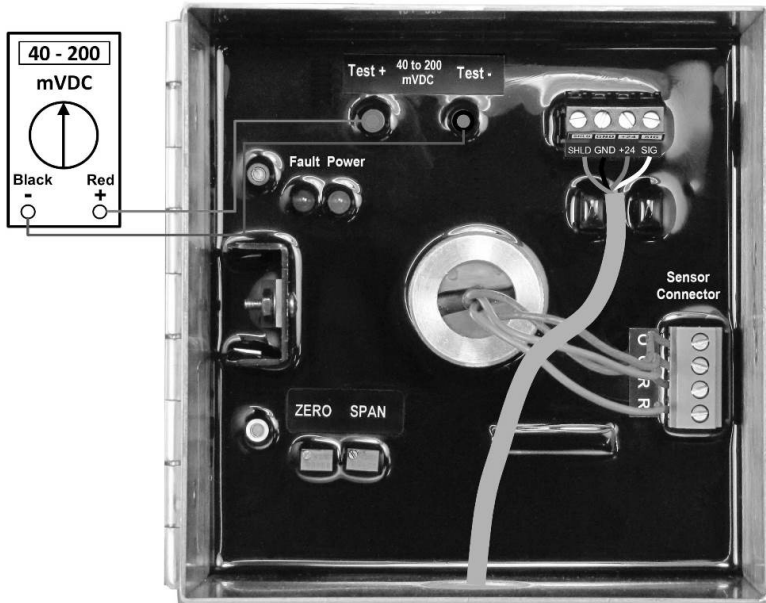

Figure 4: Sensor output and zero/span adjustments
- Adjust the zero pot until the sensor outputs 40 mV from Test [-] to Test [+] (see **Figure 4**).
- Once the output signal has peaked (or one minute maximum) adjust the span pot until the sensor outputs 200 mV from Test [-] to Test [+] (see **Figure 4**).